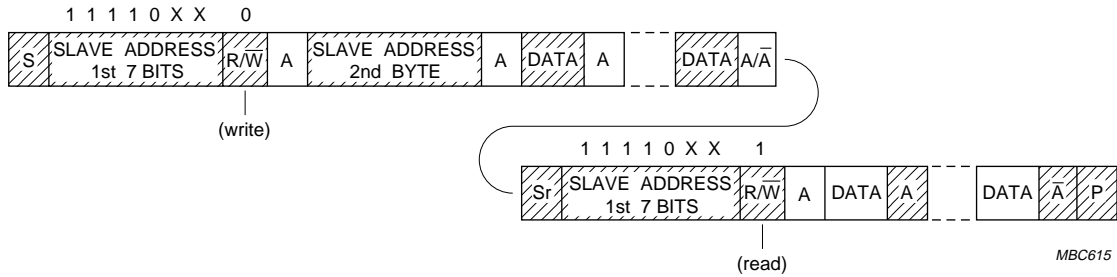

Fig.28 Combined format. A master addresses a slave with a 10-bit address, then transmits data to this slave and reads data from this slave.
- Combined format. A master transmits data to a slave and then reads data from the same slave (Fig.28). The same master occupies the bus all the time. The transfer direction is changed after the second $\overline{R/\overline{W}}$ bit.